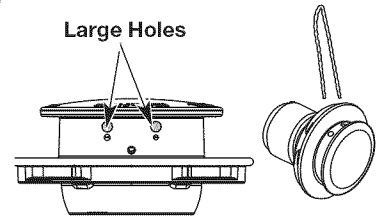

Fig. 15
4. Insert both ends of your line through the large holes in the side of the cutting head (Fig. 15).